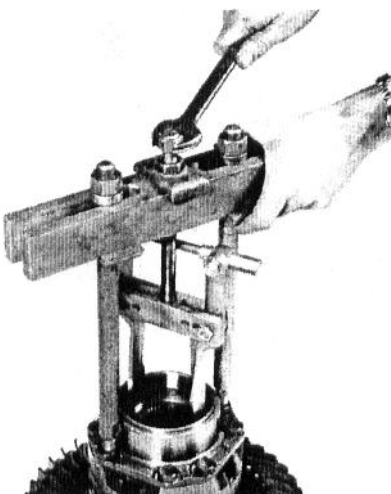
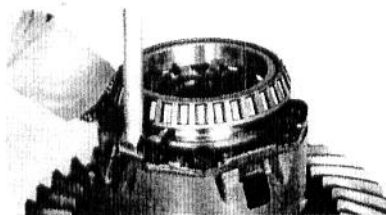

Fig. 65 - Removing R.H. Carrier Bearing Cup (Non-Diff. Lock)
Fig. 66 - Removing R.H. Carrier Bearing Cone (Diff. Lock)
2. Remove the right; non-differential lock, carrier bearing cup, using a suitable puller as shown in Fig. 65, or remove the diff. lock bearing cone as shown in Fig. 66.